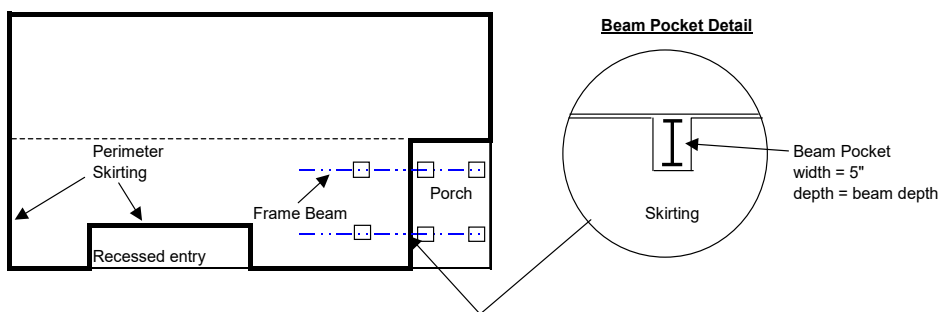

Figure 96. Perimeter skirting at recessed entries, porches, and decks
- 1. Configure skirting.** Run the skirting along the perimeter of the home's heated, conditioned space (**Figure 96**). Do not enclose with skirting areas under recessed entries, porches, or decks (whether constructed as part of the home or added on site) unless following the provisions in item 6 of this step.
- Provide typical skirting separation from main home crawlspace area (fig 96)